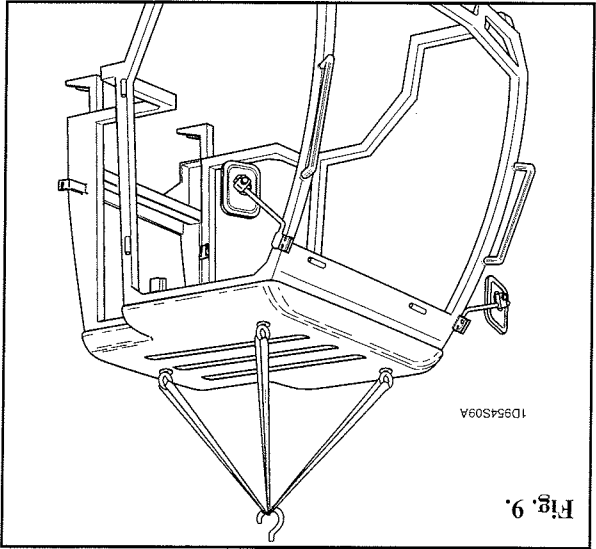
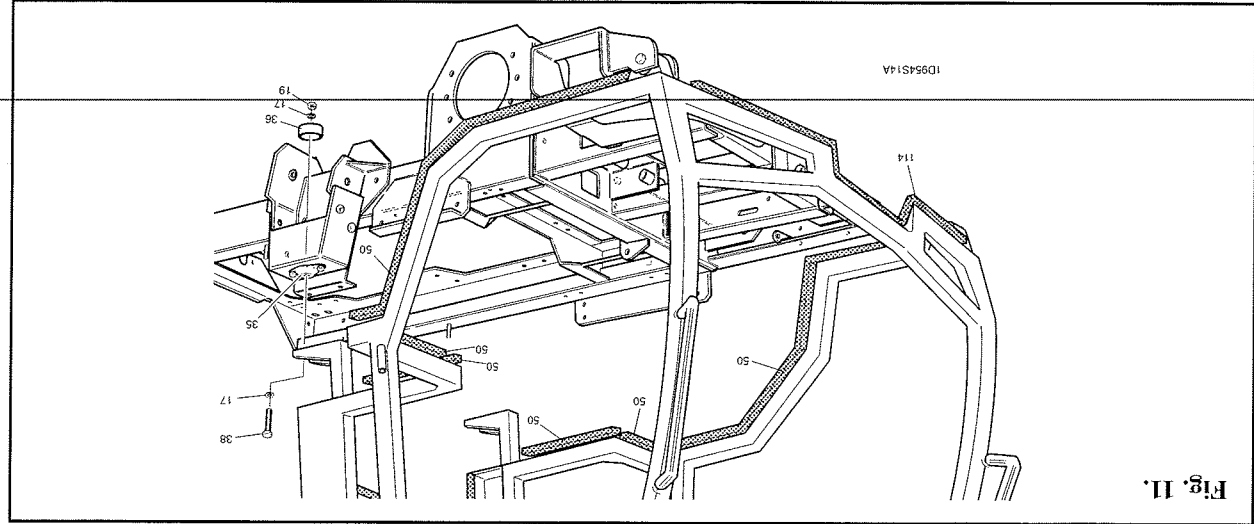

Fig. 9.
Fig. 11.
27. Using suitable lifting equipment (capable of lifting in excess of 350kg safely), carefully raise the cab assembly from the transport frame using suitable lifting straps as shown in Fig. 9. The transport frame should be returned to Hayter Limited for re - use.
28. Carefully align the cab assembly with the pivot brackets on the LH & RH hand footstep brackets (items 34 & 40) and secure using the M16 Fasteners (items 4, 5 & 6). Do not tighten fully at this stage.
29. Fit the front lower trim (item 114) and the foam strips (items 50) to the base of the cab frame.
30. Support the weight of the cab with the lifting equipment and rotate the cab assembly rearwards to locate onto the rear isolator mounts (items 35). Refer to Fig. 11.
! WARNING - PREVENT ACCIDENTS: The following procedures should be performed with the aid of an assistant. - Lower all cutterdecks to the ground, apply the parking brake, switch off the engine and remove the ignition key. - Connect up suitable lifting equipment (capable of lifting 350Kg safely), to the lifting point at the top of the rear of the cab main assembly. - Disconnect the cab wiring connector from the machine wiring harness underneath the fuel tank. - Remove the two bolts securing the rear cab mountings. - Carefully raise the rear of the cab away from the machine using the lifting equipment (with another person to assist) and rotate the cab forwards on its front mountings. - Support/Block the cab safely in the required position. - The cab must be lowered by following the above procedure in reverse. Re-assemble the rear mounting bolts and ensure that the mount retainers (items 36) are correctly located. Refer to Fig. 11. Tighten the mounting bolts to 75Nm torque. - To remove the cab completely from the machine, follow procedures 1 to 5 above, but arrange the lifting straps as shown in Fig. 9. Operate the lifting device to support the cab and remove its weight from the front mountings bolts. Remove the front mounting bolts and then carefully raise the cab fully away from the machine using the lifting device.